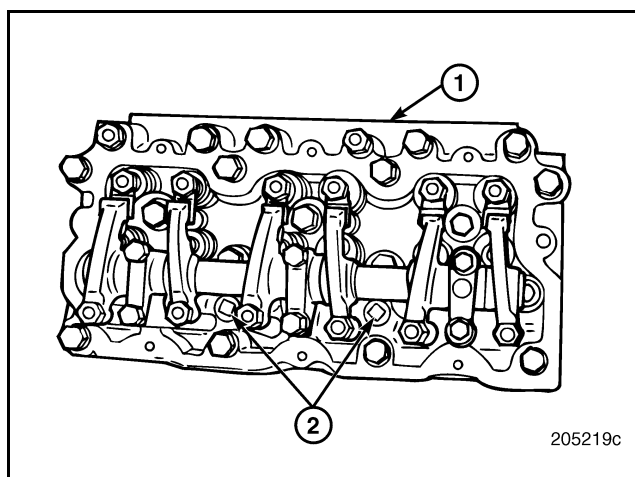

Figure 98 — Cylinder Head Pipe Plugs (3/4-Inch NPT)
1. Look for coolant stains around the 3/4-inch NPT pipe plugs on top of the cylinder heads. Check plug torque. The plug torque specification is 55 lb-ft (75 N•m). Refer to Figure 98.